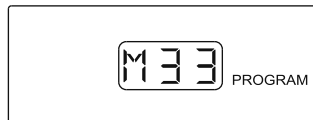

Figure 2-15
4. To adjust the hour (h) you will need to press and hold the **SET** button until the center digit flashes. Keep in mind that the hour will be displayed as a 24-hour clock. An example is that 3:00 in the afternoon will be shown on the clock as h15. Pressing the up and down arrow buttons will adjust the value of this digit. When you have selected the number that you want press the right button to adjust the right digit in the same manner with the up and down arrow buttons. When you have the proper number displayed for the hour (h) press and hold the **SET** button for 3 seconds until the monitor beeps twice and the display flashes twice. (The monitor will now display like **Figure 2-15**.)